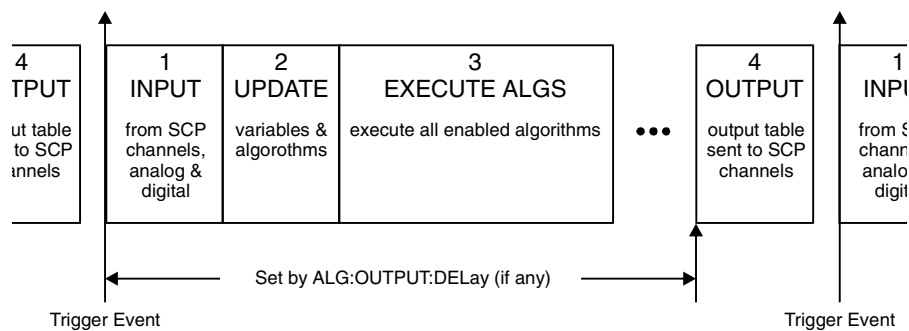

Figure 7-1. Updating Variables and Algorithms
- The algorithm output statements (e.g., O115 = Out_val) DO NOT program outputs when they are executed. Instead, these statements write to an intermediate Output Channel Buffer which is read and used for output AFTER all algorithms have executed AND the algorithm output delay has expired (see Figure 7-1). Also note that not all outputs will occur at the same time but will take approximately 10 μsec per channel to write.
- Variables and algorithms can be accepted during Phase 1-INPUT or Phase 2-UPDATE in Figure 7-1 when INIT is active. All writes to variables and algorithms occur to their buffered elements upon receipt. However, these changes do not take effect until the ALG:UPD:IMM command is processed at the beginning of the UPDATE phase. The update command can be received at any time prior to the UPDATE phase and will be the last command accepted. Note that the ALG:UPD:WINDOW command specifies the maximum number of updates to do. If no update command is pending when entering the UPDATE phase, then this time is dedicated to receiving more changes from the system.
ALGORITHM:UPDATE:CHANNEL <dig_chan> This command is used to update variables, algorithms, ALG:SCAN:RATIO, and ALG:STATE changes when the specified digital input level changes state. When the ALG:UPD:CHAN command is executed, the current state of the digital input specified is saved. The update will be performed at the next update phase (UPDATE in Figure 7-1), following the channel's change of digital state. This command is useful to synchronize multiple E1422As when you want all variable updates to be processed at the same time.
- The duration of the level change to the designated bit or channel **MUST** be at least the length of time between scan triggers. Variable and algorithm changes can be accepted during the INPUT or UPDATE phases (Figure 7-1) when INIT is active. All writes to variables and algorithms occur to their buffered elements upon receipt. However, these changes do not take effect until the ALG:UPD:CHAN command is processed at the beginning of the UPDATE phase. Note that the ALG:UPD:WINDOW command specifies the maximum number of updates to do. If no update command is pending when entering the UPDATE phase, then this time is dedicated to receiving more changes from the system.